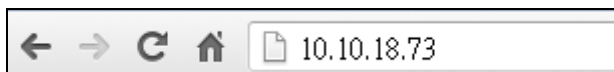

Figure 4-15: IEI iMAN Web Address
Step 2: On the remote management console, open a web browser. Enter the managed system IP address in the web browser (Figure 4-15).